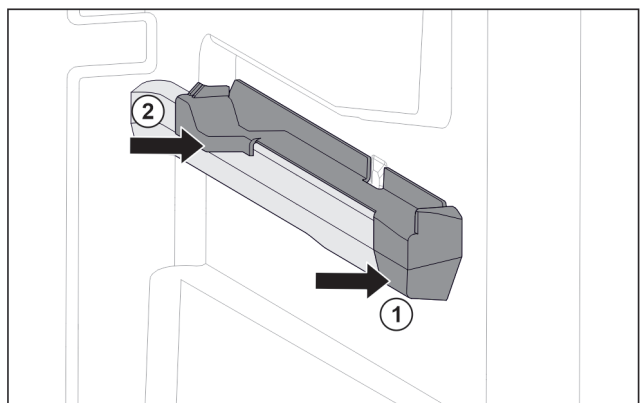

Fig. 104 Attachment on the right moulded rib
- ▶ Position attachment on moulded rib at the front. Fig. 104 (1)
- ▶ Press on attachment at the back. Fig. 104 (2)